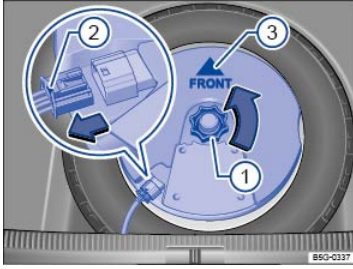

Fig. 138 Under the luggage compartment floor covering: Subwoofer (if equipped): version 1.
- *Version 1* ⇒ Fig. 138: Reinstall the subwoofer carefully back into the recess. The tip of the arrow symbol FRONT on the subwoofer ⇒ Fig. 138 ③ must point toward the front of the vehicle.